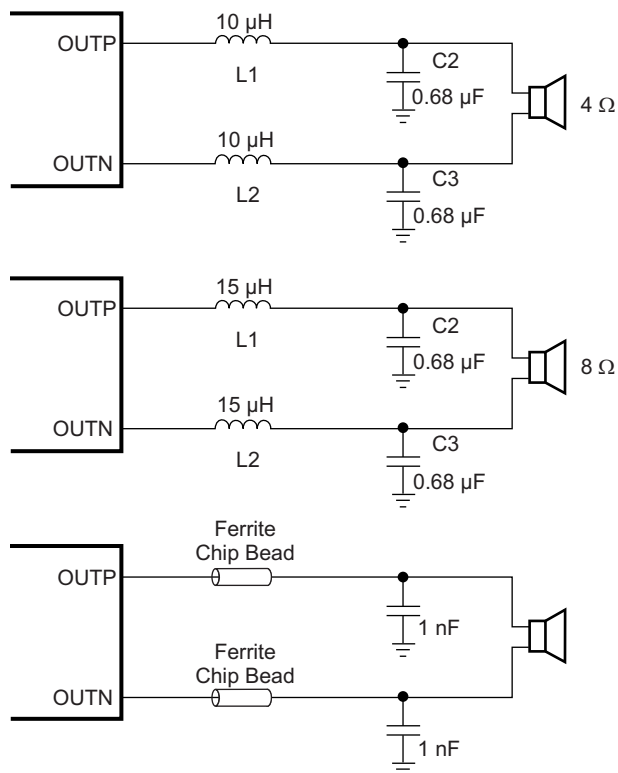

Figure 24.
- Output filter — The ferrite EMI filter (see Figure 24) should be placed as close to the output terminals as possible for the best EMI performance. The LC filter should be placed close to the outputs. The capacitors used in both the ferrite and LC filters should be grounded.